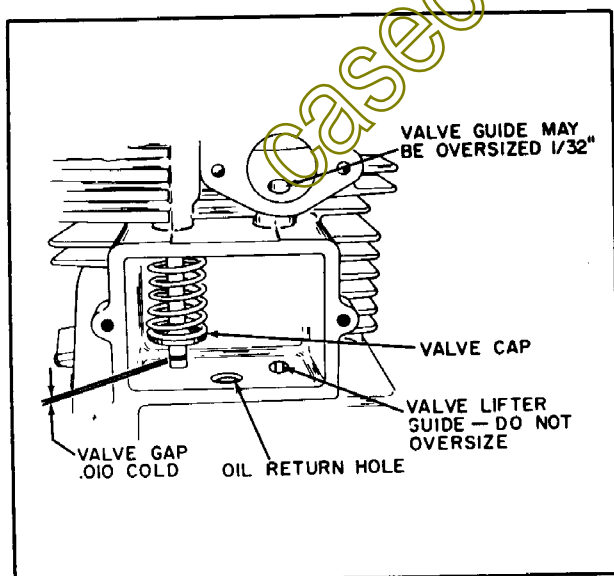

Figure 9-4
3. Check for clearance of .010 inch between each valve stem and valve lifter with feeler gauge. (See Figure 9-4) Grind valve stem in a valve resurfacing machine set to grind a perfectly square face, of proper clearance.